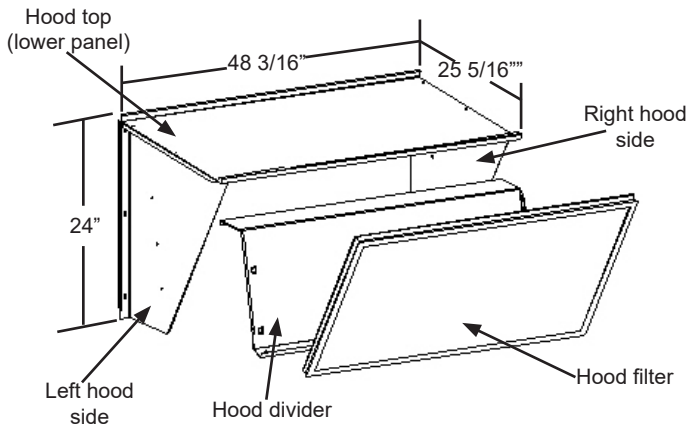

Figure 10
2. Install the hood sides to the hood top, see Figure 10.